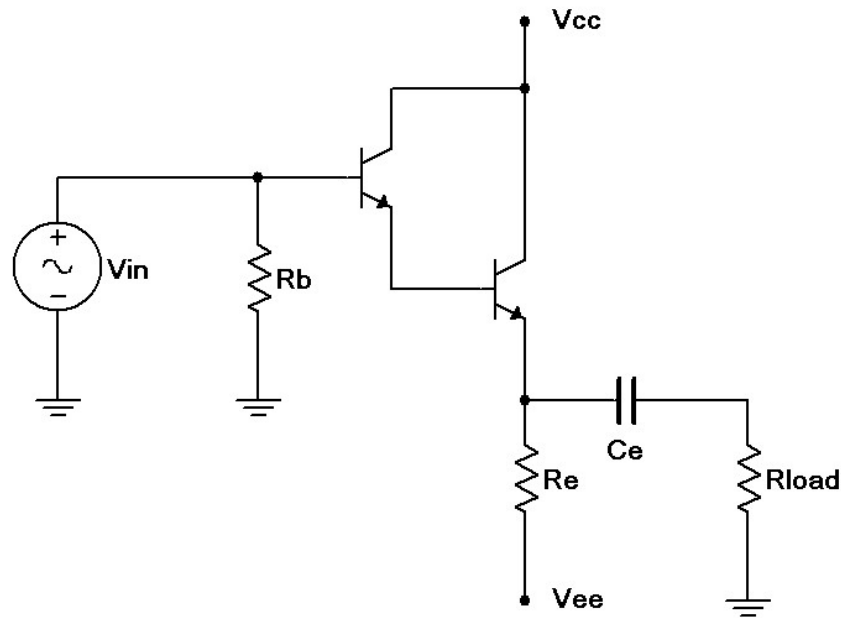

Figure 12.1
1. Consider the circuit of Figure 12.1 using  $V_{cc} = 5$  volts,  $V_{ee} = -12$  volts,  $R_b = 47$  k $\Omega$ ,  $R_e = 1$  k $\Omega$ ,  $R_{load} = 100$   $\Omega$  and  $C_e = 470$   $\mu$ F. Determine the theoretical  $I_{CQ}$ ,  $V_{CEQ}$ ,  $V_{CE(cutoff)}$  and  $i_{C(sat)}$ , and record these in Table 12.1. It is helpful to plot the AC load line for step three. Note that the collector-emitter saturation voltage for a Darlington pair cannot be assumed to be 0 volts, and may be closer to one volt, thus reducing the expecting voltage swing toward the saturation point. It is also worth noting that this amplifier has a *direct coupled* input (i.e., no input capacitor is required due to the very small DC base voltage).
2. Build the circuit of Figure 12.1 using  $V_{cc} = 5$  volts,  $V_{ee} = -12$  volts,  $R_b = 47$  k $\Omega$ ,  $R_e = 1$  k $\Omega$ ,  $R_{load} = 100$   $\Omega$  and  $C_e = 470$   $\mu$ F. Disconnect the signal source and measure the DC transistor voltages to ensure the circuit is biased correctly. Record  $V_{CEQ}$  and  $I_{CQ}$  in Table 12.1 (Experimental).